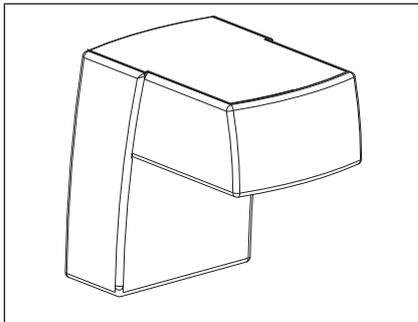

Fig. 3
2. Mount iVu Camera Module System (Fig. 3) on video adapter.